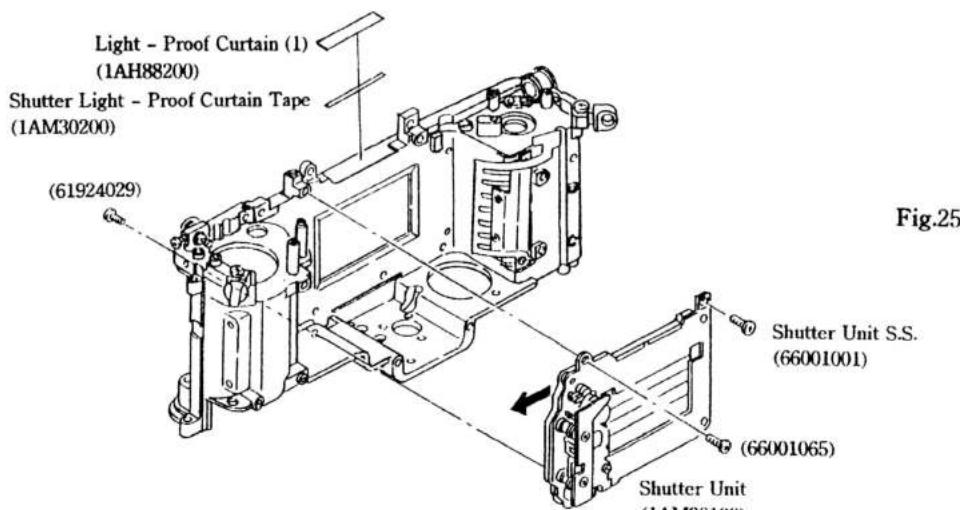

Fig.25
- 1) Peel off the Light - Proof Curtain (1) (IAH88200).
- b) The Light - Proof Curtain (1) is attached to the Body with the Shutter Light - Proof Curtain Tape (IAM30200).
- c) When installing the Shutter Unit, push the Shutter Unit in the direction of the arrow as shown in Fig. 25 and tighten the Shutter Unit Setscrews.